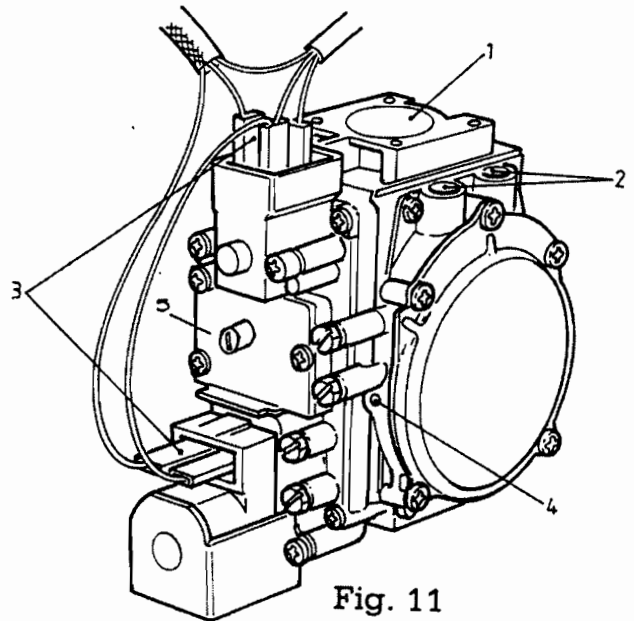

Fig. 11
## 2.2.1 Double Solenoid Valve MDF only — Fig. 11
- 1) Remove governor cap and make sure the gas valve governor is screwed fully in. Replace governor cap to seal. Fig. 11 (5)
- 2) Set offset screw clockwise to decrease, anticlockwise to **increase** to **6.0mbar + 0 - 0.1mbar** Fig. 11 (4).
- 3) Remove the gas valve governor cap and set the valve governor clockwise to increase, anticlockwise to **decrease** to **6.2mbar +/- 0.1mbar** Fig 11. (5).
- (vii) Disconnect the nut (3) from the inlet pipe to the injector assembly.
- (viii) Remove the two hexheaded screws from the gas valve top (2) and remove the inlet pipe Fig.11.
- (xii) Remove the six screws (5) on the fan seal clamp and transfer the seal and clamp to the replacement heat exchanger assembly.